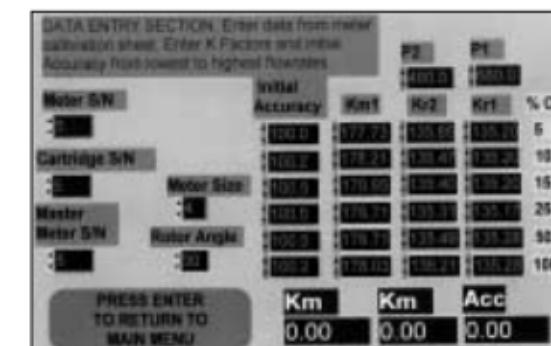

Figure 13 Data Entry Screen
D. Click on “View Original Data” or press F4. This brings up the data entry screen which displays meter parameters such as K-factors for each rotor, the initial meter accuracy at various flow rates, meter size, serial numbers, etc., Figure 13. Check this data against the calibration sheet supplied with the meter.
Note: The screen shows a “Ptest” display, the pressure at which the accuracy test is to be conducted. The default value shown is the pressure P2 on the Data Entry Screen, Figure 13, which is the meter operating pressure. If you are proving the meter at atmospheric pressure, enter .2 psi in the Ptest display using the mouse to click in the window and keying in the pressure. This will allow the laptop to use the atmospheric K-factors for this test, but does not lock in the Ptest value.